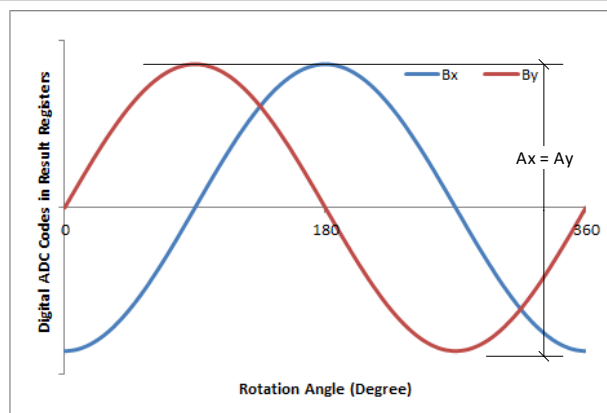
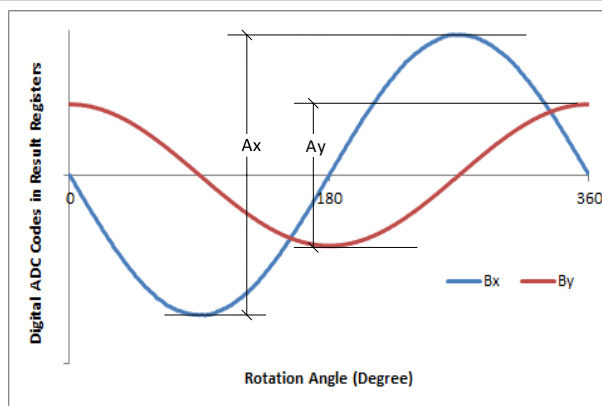

Figure 8-6. X and Y Sensor Data for Full 360 Degree Rotation for On-Axis Measurement
Figure 8-7. X and Y Sensor Data for Full 360 Degree Rotation for Off-Axis Measurement
3. Measure the maximum peak-peak ADC code delta for each axis, A_x and A_y , as shown in Figure 8-6 or Figure 8-7.